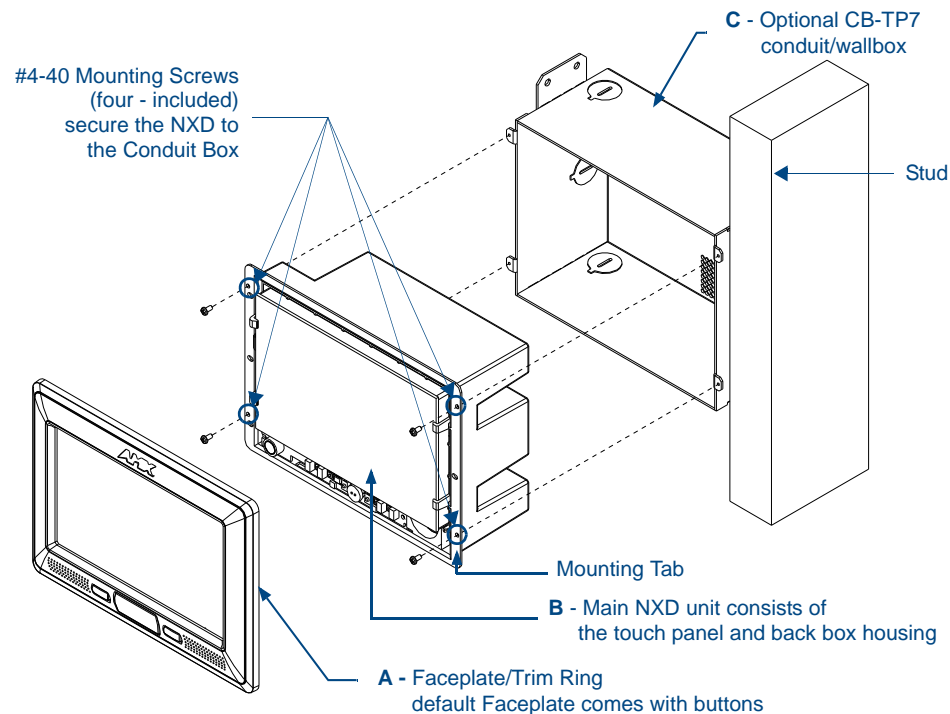

FIG. 12 NXD-700Vi panel installation into a CB-TP7 (pre-wall construction)
1. Remove the Faceplate/bezel (A in FIG. 12) from the main NXD unit (B in FIG. 12) by gripping the faceplate and pulling with gentle outward force.
6. Carefully slide the main NXD-700Vi unit (**B** in FIG. 12) into the conduit box, so that all Mounting Tabs lie flush against the conduit box (**C** in FIG. 12).
8. Place the Faceplate/Trim Ring assembly (**A** in FIG. 12) back onto the main NXD unit (**B** in FIG. 12). *Make sure to align the Microphone, Light, and PIR Motion sensor locations to their respective openings on the front faceplate/bezel.*